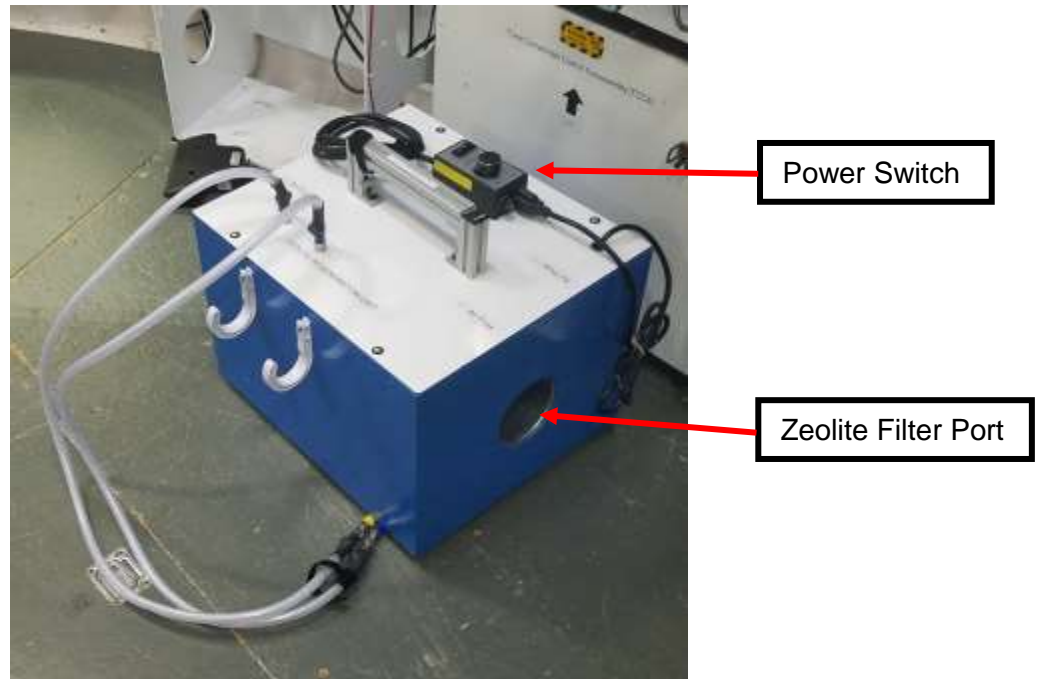
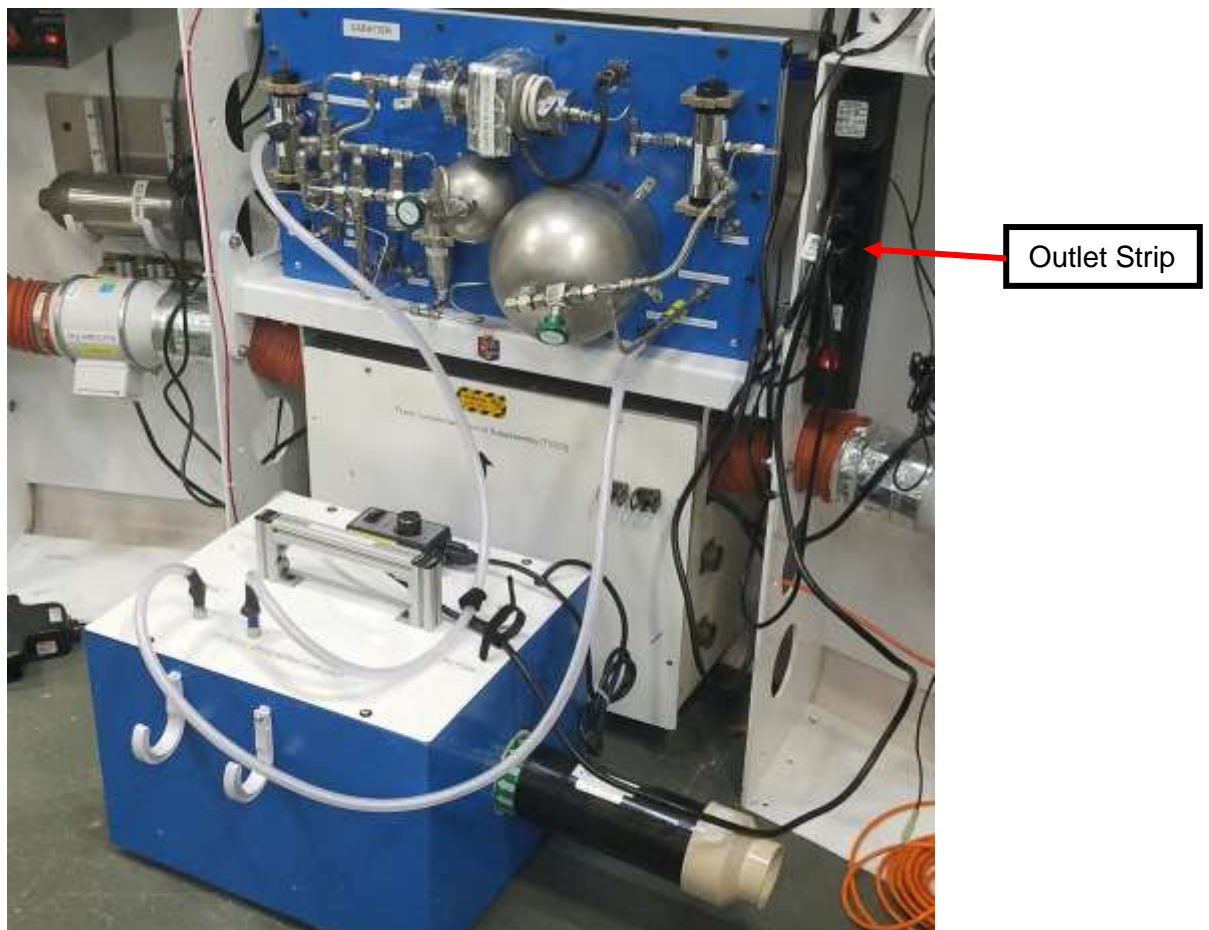

Figure 2: Zeolite Regeneration Unit (ZRU)
Figure 4: ZRU Connected to Sabatier
- 2.1 Move Zeolite Regeneration Unit (ZRU) in front of Sabatier (see Figure 2).
- 2.9 Unfurl power cable and plug power cable into outlet strip on right of Sabatier (see Figure 4).
- 4.3 Insert Zeolite 5A filter into ZRU port (see Figure 2 and Figure 4).